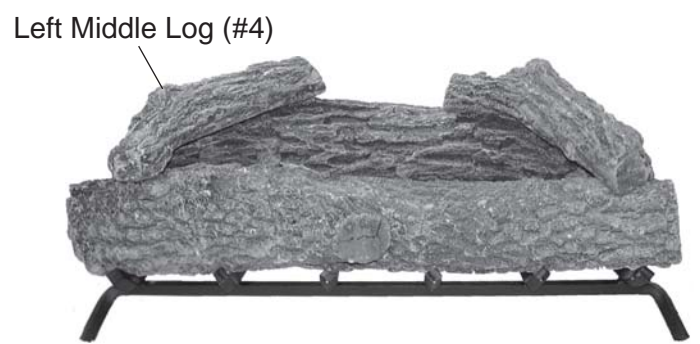

Figure 61 - Positioning Left Middle Log (#4)
4. Place Right/Left Middle Log #4 on top left of Log #1 and Log #2. *See Figure 61.*